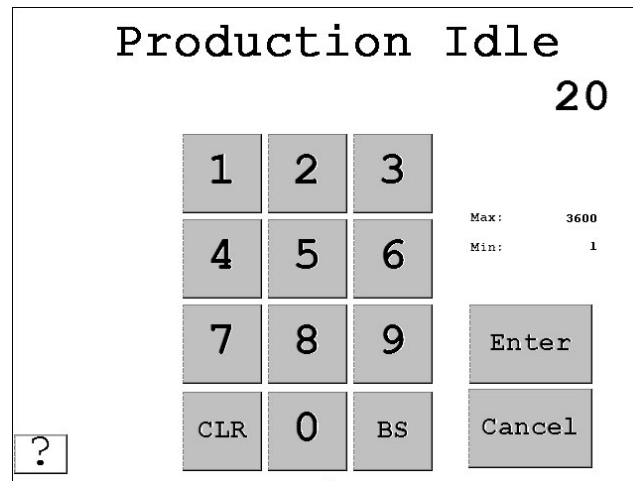

Figure 3-17. Production Idle Timer Screen
1. On the Production Settings screen, press *Production Idle Timer*. The Production Idle Timer screen displays (Figure 3-17, page 57) with the current timer setting (default is 5 seconds) displayed above the *CLR* key, the final digit shown in flashing reverse video.